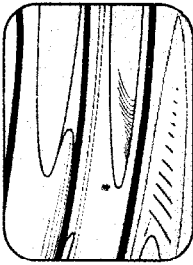

FIG. 6—HORIZONTAL MOVEMENT
8. **HORIZONTAL HOLD**—Should the picture appear to move horizontally across the screen or break up into a series of light and dark streaks as shown in Figure 6, adjust the "Horizontal Hold" control until the picture remains stationary.